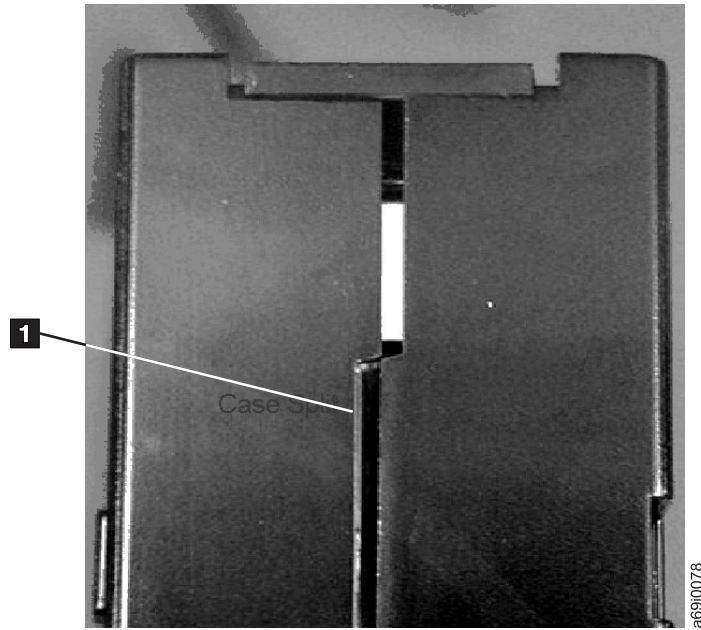

Figure 43. Gap in cartridge seam
3. Inspect the rear of the cartridge (the part that you load first into the tape load compartment) and ensure that there are no gaps in the seam of the cartridge case. (Refer to **1** in Figure 43 on page 161. If there are gaps in the seam, the leader pin may be dislodged and may need to be repositioned.)